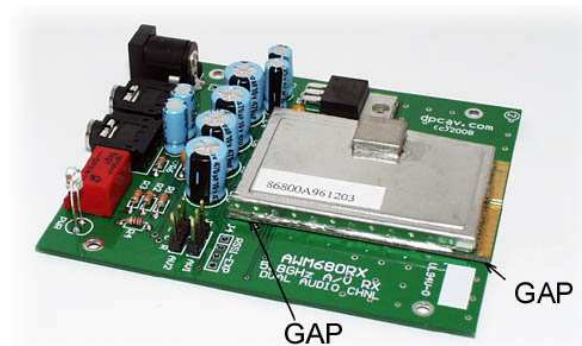

Figure 5, RF Module Installed
4 RF MODULE INSTALLATION: See Figure 5.
- 4.1 Place the AWM681TX module on the PCB. It will have a gap between it and the PCB. It does NOT sit flush. See Figure 5 for details.